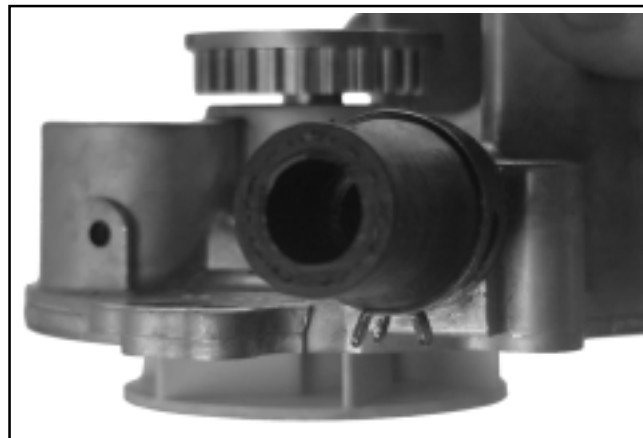

Figure 11-60. First Clamp and Hose Section Installation.
- Apply rubber lubricant to the inner surface of the short hose section. Assemble the hose to the outlet of the water pump and secure with the larger diameter clamp. Orient the clamp so the tangs extend down in the 5 to 6 o'clock position, towards the impeller of the pump. See Figure 11-60.